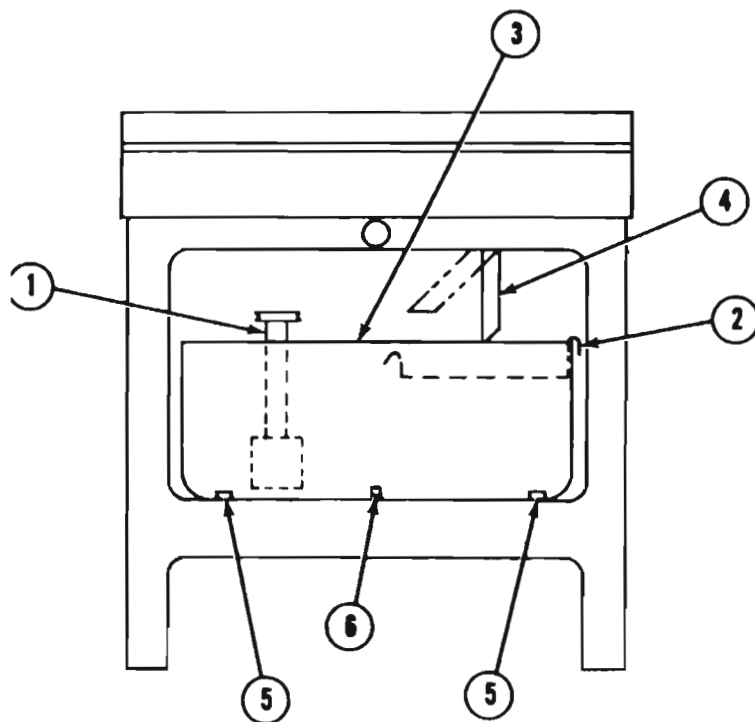

Fig. 95
To clean the Sediment Tray (2, Fig. 95), open door on front of machine base to gain access to Oil Pump (1), Sediment Tray, and Oil Reservoir (3). Grasp Tray lip which overhangs right side of Reservoir and tip Tray to the left, allowing oil to drain from sludge. Push Drain Pipe (4) to the left, which lifts it out of the way. Remove Tray and dispose of sludge. Install Tray with lip overhanging right side of Reservoir. Pull Drain Pipe to the right (down).
Remove the two Reservoir Retainers (5, Fig. 95) and slide Reservoir out 4 to 6 inches (Drain